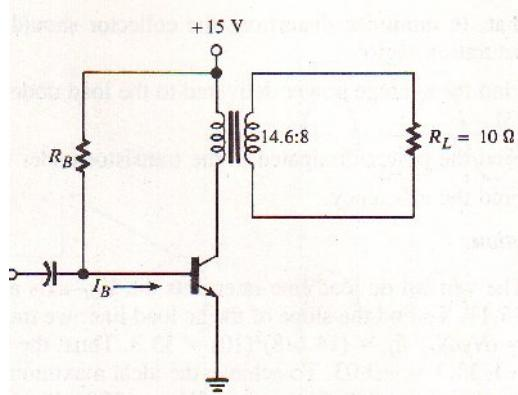
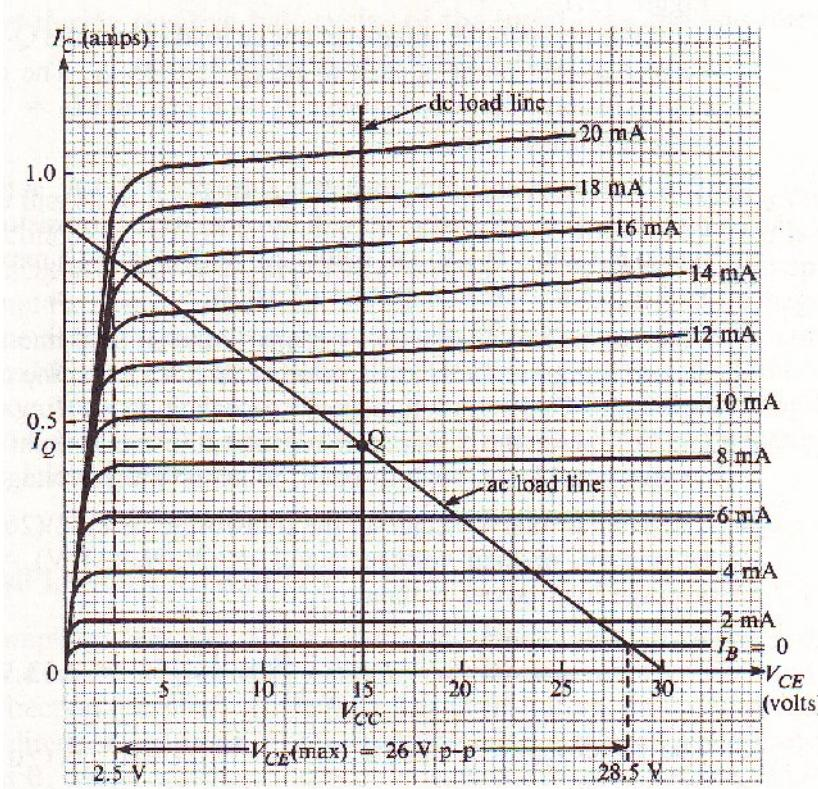

Fig 4-10 Example (4-6)
Fig 4-11 Example (4-6)
Example 4-6: The transistor in the power amplifier shown in Fig4-10 has the output characteristics shown in Fig4-11. Assume that the transformer has zero resistance.
1. The vertical dc load line intersects the V_{CE} -axis at $V_{CC} = 15$ V as shown in Fig 4-11. To find the slope of the ac load line, we must find r_L .
$r_L = (N_p/N_s)^2 R_L = (14.6/8)^2 (10) = 33.3 \Omega$. Thus, the slope of the ac load line is $-1/r_L = -1/33.3 = -0.03 \text{ A/V}$. To achieve the ideal maximum output swing, we want the ac load line to intercept the V_{CE} -axis at $2V_{CC} = 30$ V. Since the slope of that line has magnitude 0.03, it will intercept the I_C -axis at $I_C = (0.03 \text{ A/V})(30 \text{ V}) = 0.9 \text{ A}$. The ac load line is then drawn between the two intercepts (0 A, 30 V) & (0.9 A, 0 V), as shown in Fig 4-11.
3. The maximum value of V_{CE} occurs on the ac load line at the point where $I_B = 0$ as shown in Fig 4-11, this value is 28.5 V. Since the minimum permissible value of V_{CE} is 2.5 V, the maximum peak-to-peak voltage swing is $28.5 - 2.5 = 26 \text{ V}_\text{p-p}$. As can be seen on the characteristic curves, the base current must vary from $I_B = 0$ to $I_B = 18 \text{ mA}$, or 18 mA peak-to-peak, to achieve that voltage swing.